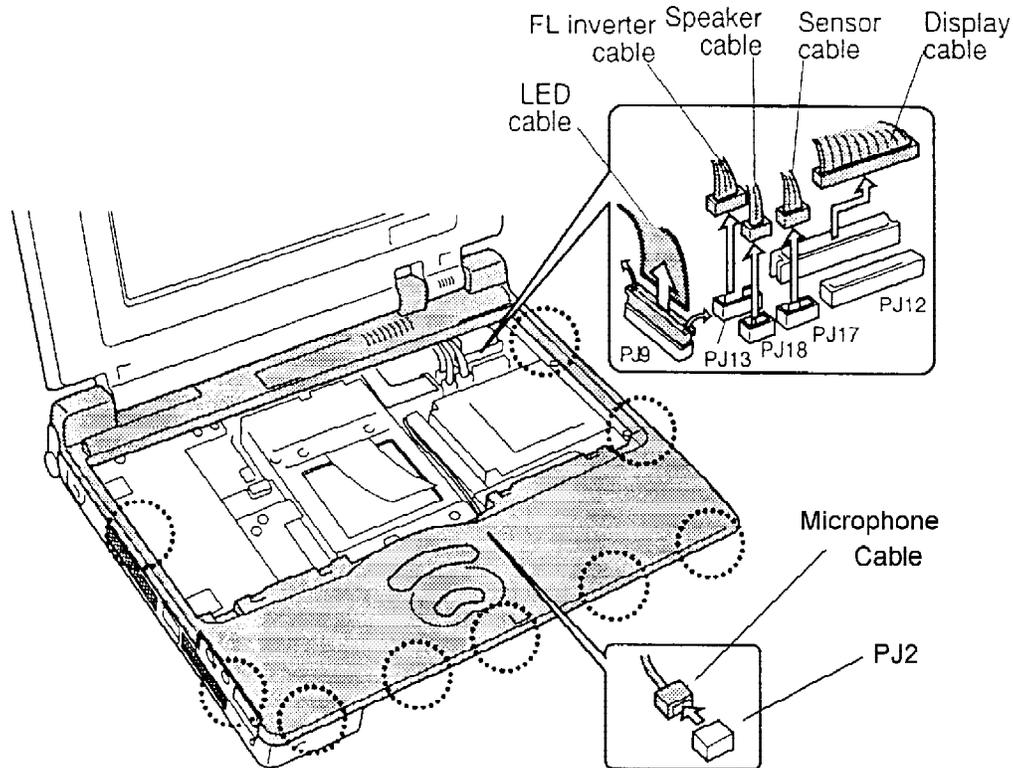

Figure 4-16 The top cover's nine latches
1. Set the top cover in place and snap in the nine latches (figures 4-16 and 4-17).